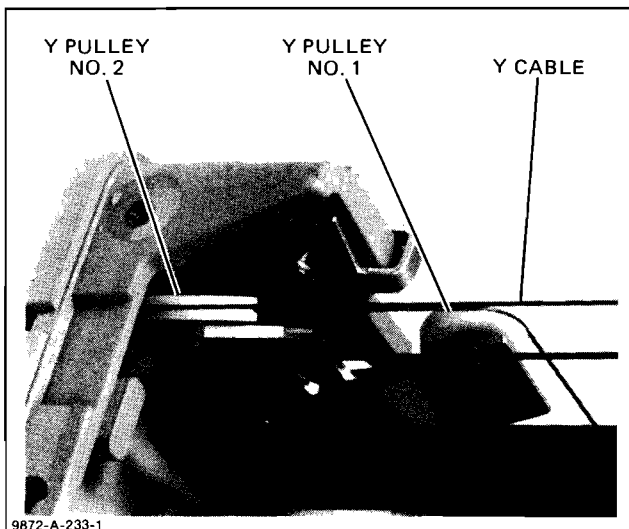

Figure 6-20. Upper Right Pulley Bracket
- g. Thread the long end of the cable around pulleys #1, 2, and 3 as shown in Figures 6-20 and 6-21. From pulley #3, thread around under the trailing cable tray to pulley #4.